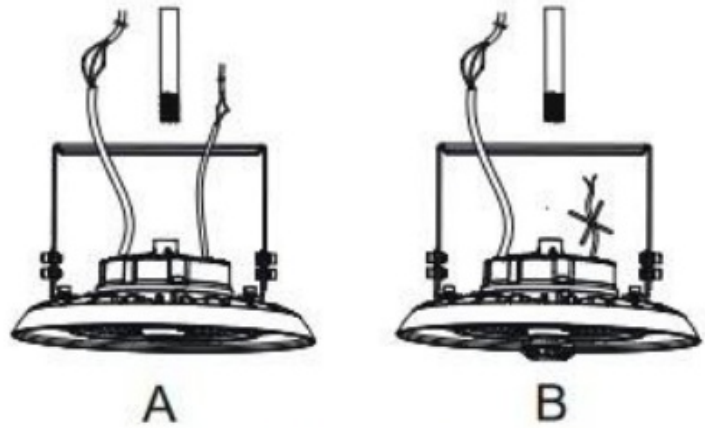

Figure 8
2. Insert 1 NPT stem into the bracket (purchased separately) hole (Figure 8).